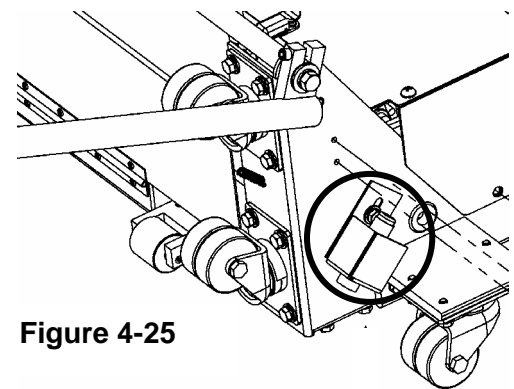

Figure 4-25
2. Locate the sensor on the bracket over the back, right caster wheel, as shown in Figure 4-25.